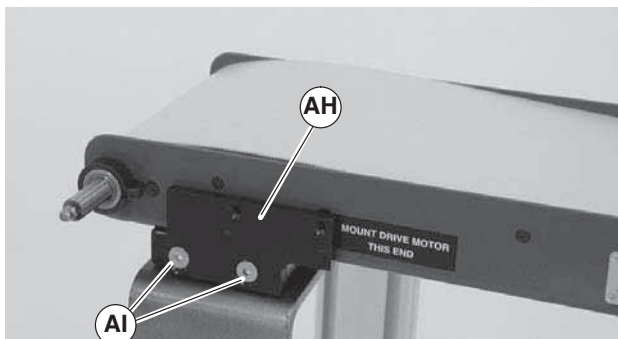

Figure 17
- b. If tension pins are located on drive side, remove gearmotor mount. Remove screws (Figure 17, item AI) and mounting plate (AH).